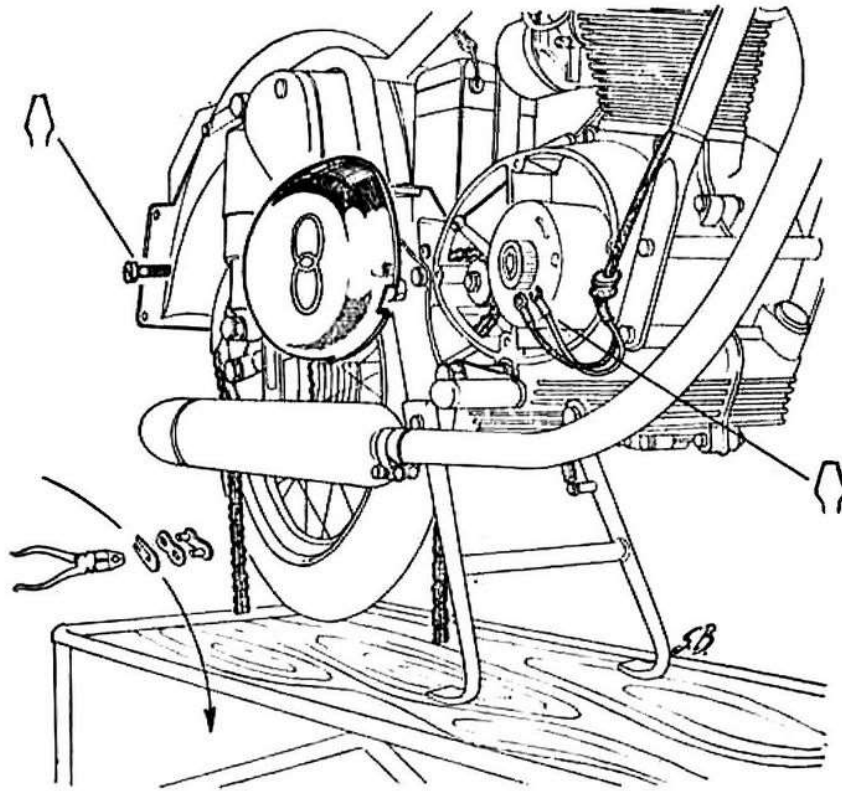

Fig. 21
N.B. - In replacing the chain, fit the connecting link spring with its closed end turned in the moving direction of the chain, as shown in Fig. 21.